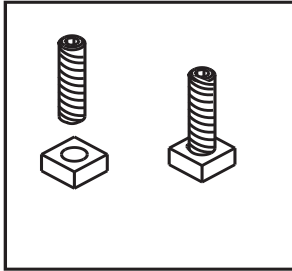

Figure 24.1
1. Thread Allen bolts through nuts until flush (**Figure 24.1**). The Allen bolts and nuts are included in the component pack inside the appliance firebox.